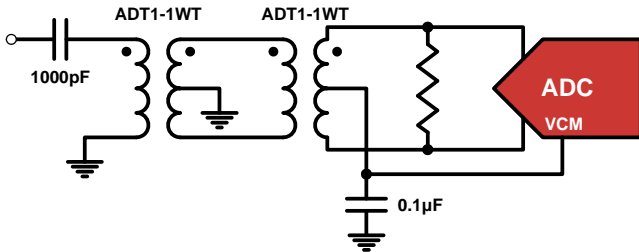

FIGURE 45. TRANSFORMER INPUT FOR GENERAL PURPOSE APPLICATIONS
Best performance is obtained when the analog inputs are driven differentially. The common-mode output voltage, VCM, should be used to properly bias the inputs as shown in Figures 45 through 47. An RF transformer will give the best noise and distortion performance for wideband and/or high intermediate frequency (IF) inputs. Two different transformer input schemes are shown in Figures 45 and 46.